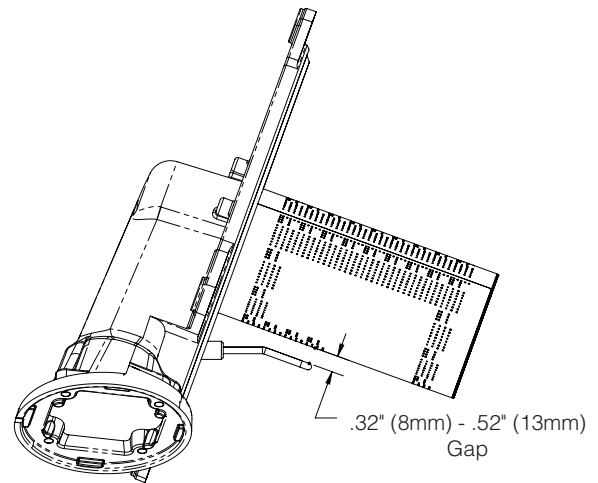

Figure 18-3: Ignitor/flame sensor to burner gap
- D. Verify gap between ignitor/flame sensor and burner is within range shown in Figure 18-3.
- A. Gas valve setting (1) for Natural Gas (2) for LP
- B. Control fuel gas selection [A05] (0) for Natural (1) for LP
- B. Check ignitor flame sensor distance to burner per Figure 18-3.